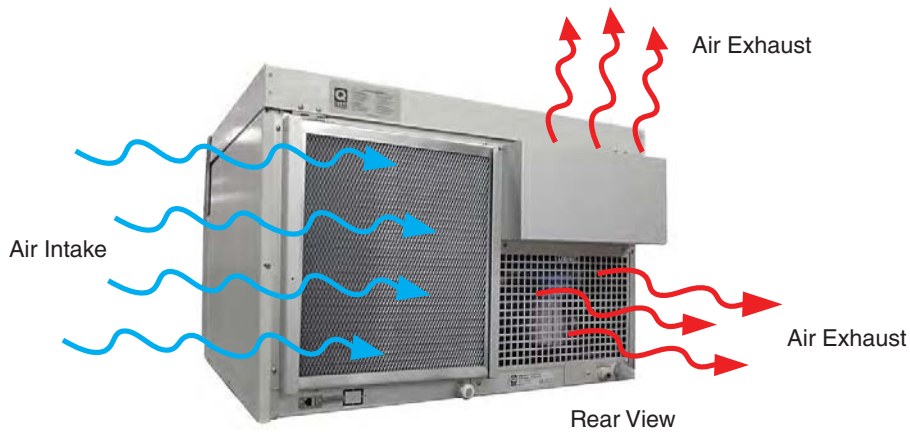

Figure 9.3b: Rear view Xe-1-SE air intake and exhaust areas.
- Air is pulled into the tester through a filter and exhausted through vents in the rear of the chamber (Figure 9.3b).